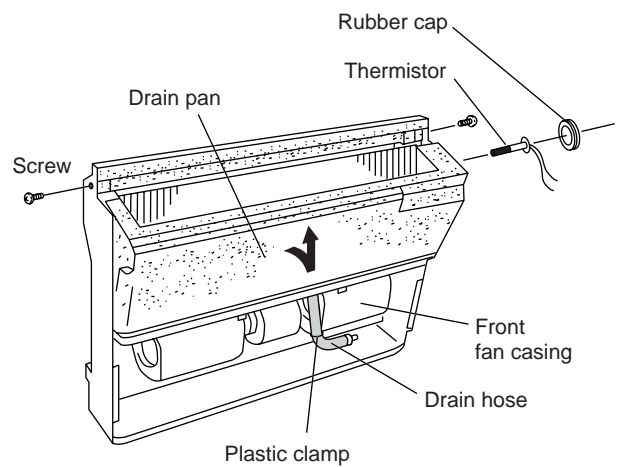

Fig.10
(4) Remove the 2 screws used to mount the evaporator. (Fig. 10)
(5) Remove the rubber cap to pull the thermistor out of the evaporator. (Fig. 10)
(6) Cut the plastic clamp securing the drain hose to the front fan casing. (Fig. 10)
(7) The evaporator is built into the drain pan. Pull out the drain pan together with the evaporator in the direction of the arrow. (Fig. 10)